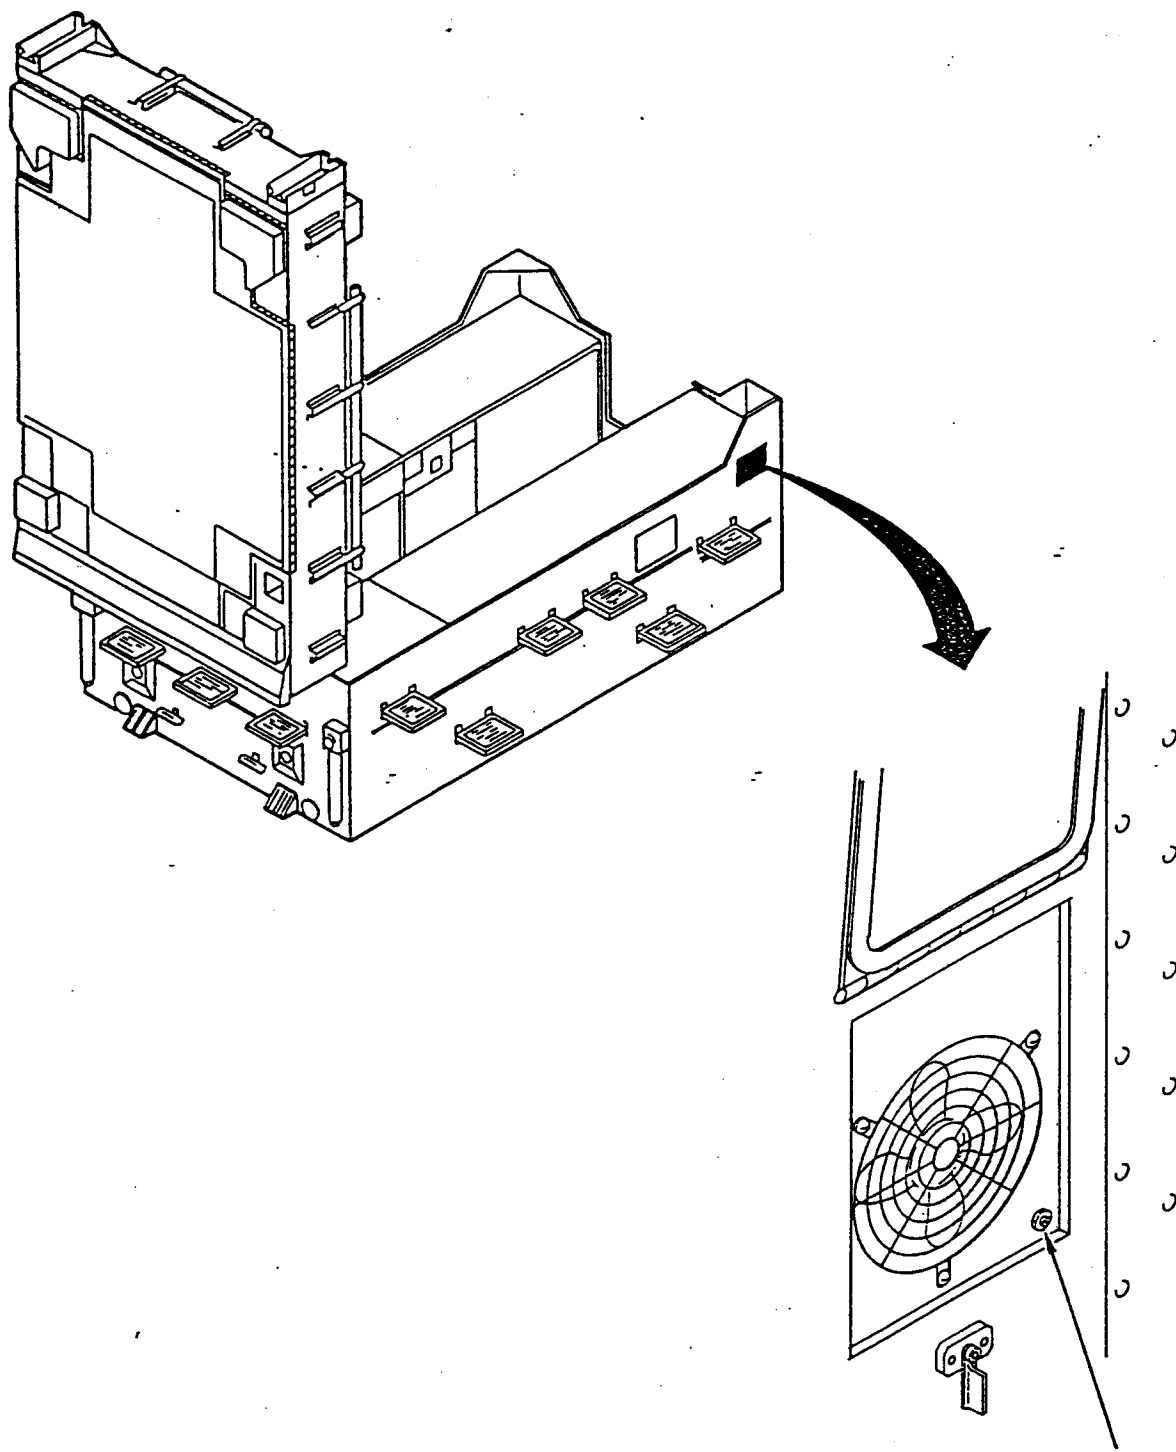

FIGURE 1
(1) Energize system through low voltage per instructions in Note 1 above.
(2) Locate the MOIST AIR OUTLET. It is located in the road side of the trailer. (See figure 1.)
(3) Inspect the MOIST AIR OUTLET for a discernible amount of air and/or moisture coming out of the opening.
(4) If no air comes out of the outlet, wait 15 minutes and recheck it. If air still does not come out of the outlet, de-energize the system and proceed to locate the trouble. (REFER TO PAGE 3-222 OF TM 11-5840-355-20-1 or PAGE 3-230 OF TM 11-5840-373-20-1 AS THE STARTING TROUBLESHOOTING FLOW CHART FOR THE TRANSMITTER DEHYDRATOR AND THEN USE THE FUNCTIONAL PAGES FOUND ON MAINTENANCE BULLETIN NO. 111 AND THE DIRECT SUPPORT MANUAL.)